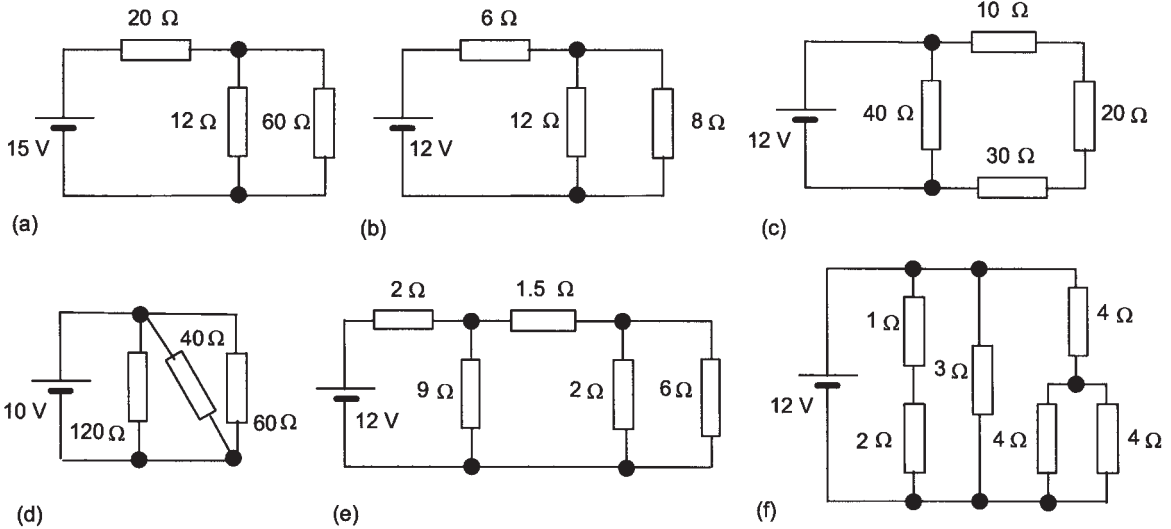

Figure 12.23 Problem 1
- 1 Determine by simplifying the circuits the total resistance and the total circuit drawn from the voltage source in each of the series-parallel arrangements of resistors shown in Figure 12.23.